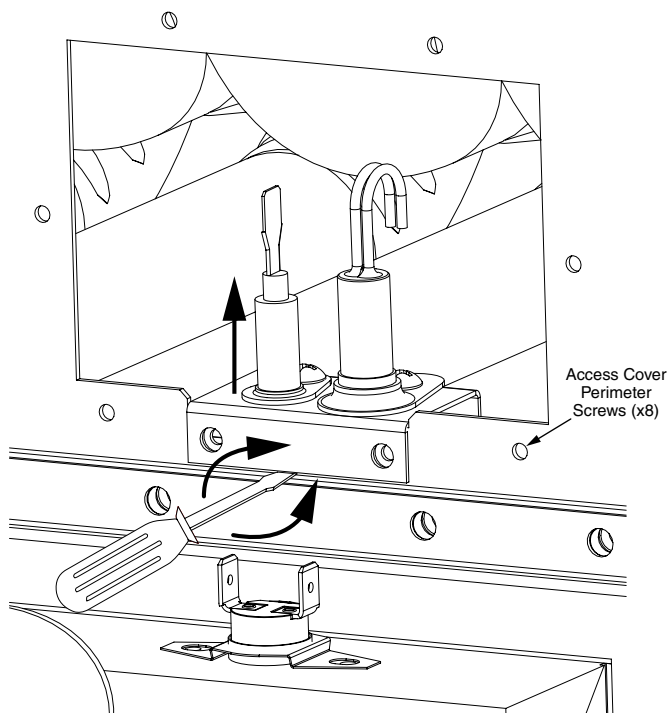

Figure 16. Ignitor Flame Sensor Bracket
7. Lift the assembly and bracket straight up out of the burner box and off the HX panel. **NOTE:** Use of a flat blade screwdriver between assembly bracket and top of burner mounting bracket to help leverage bracket off may be required. See Figure 16.